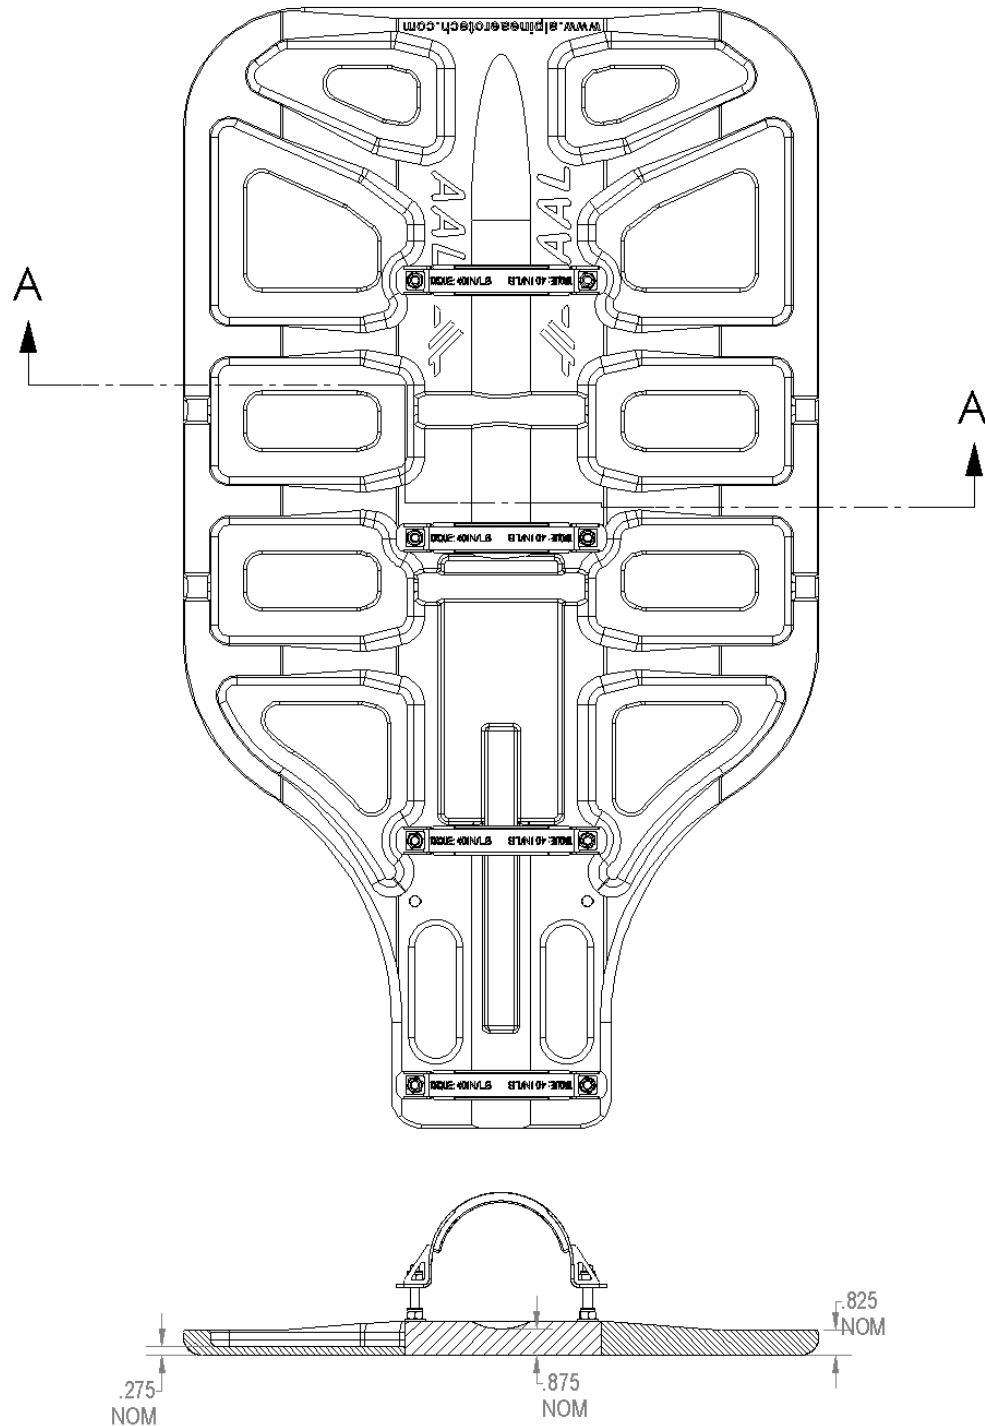

Figure 1
- v. In the shaded regions ,  of Figure 1 the Bear Paw may be worn to a maximum depth of 0.125.
- vi. In the shaded  region of Fig 1, it is acceptable to have damaged areas up to a maximum depth of 0.125 over a maximum area of 2 sq. in. Damage includes but not limited to scratches, gouges and deformed areas.
- viii. Cracks are acceptable in the shaded  portion of Fig 1 as long as they are restricted to the pockets of the bear paws, and do not exceed 0.50 long. Cracks that penetrate the stiffening ribs of the same area are unacceptable. Stop drill all cracks up to 0.50 long with $\varnothing 0.188$ drill.
- ix. Inspect items 2 & 12 Cap, Assys for damage to their respective components:
- a. Inspect items 4 & 14, Strap, Assys for cracks and hole elongation. If cracks are detected, or holes are elongated more than 0.025, replace the Strap, Assys (Items 4 & 14) immediately.
- b. Inspect items 3 & 13 Cap, Details for wear and damage and replace as required.